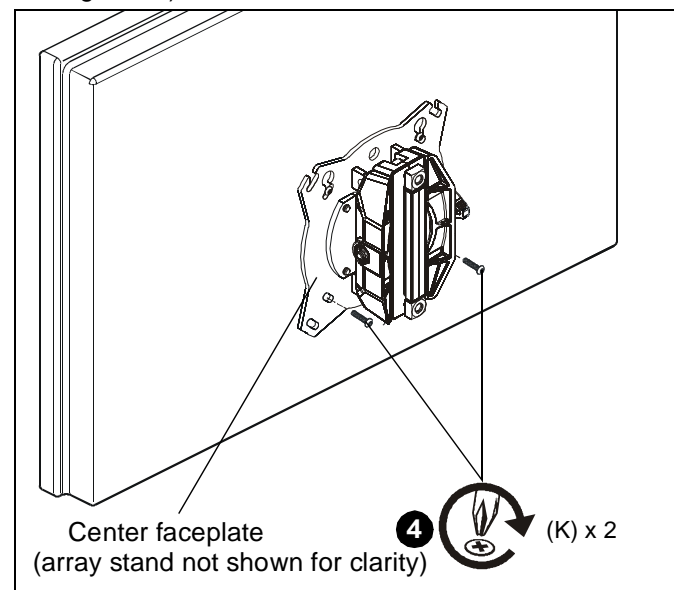

Figure 11
4. Using Phillips screwdriver, install two M4x12 mm Phillips pan machine screws (K) through the *lower* mounting holes on faceplate into the display. (See Figure 11)